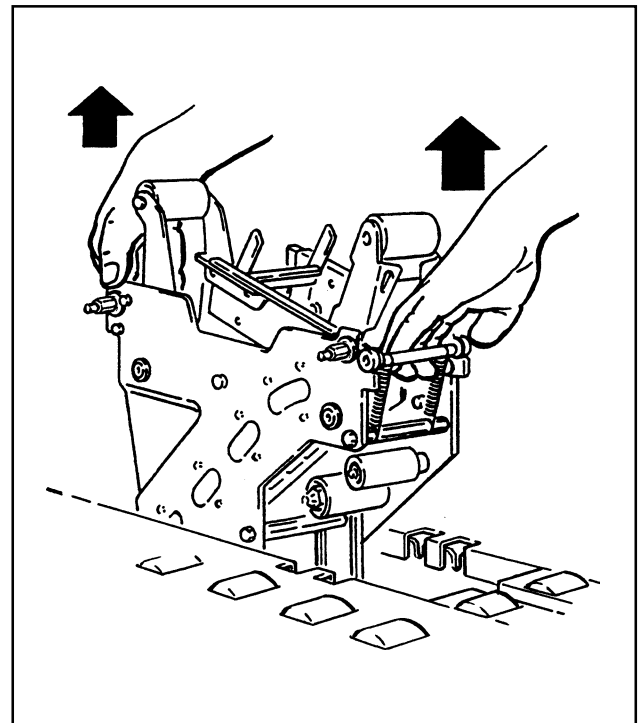

Figure 5-1 – Remove Lower Taping Head
1. Lift the taping head as shown in Figure 5-1 and remove it from the machine bed.
CAUTION – Holding taping head in another way than shown in Figure 5-1 may increase the danger of being injured by the tape cut-off knife.